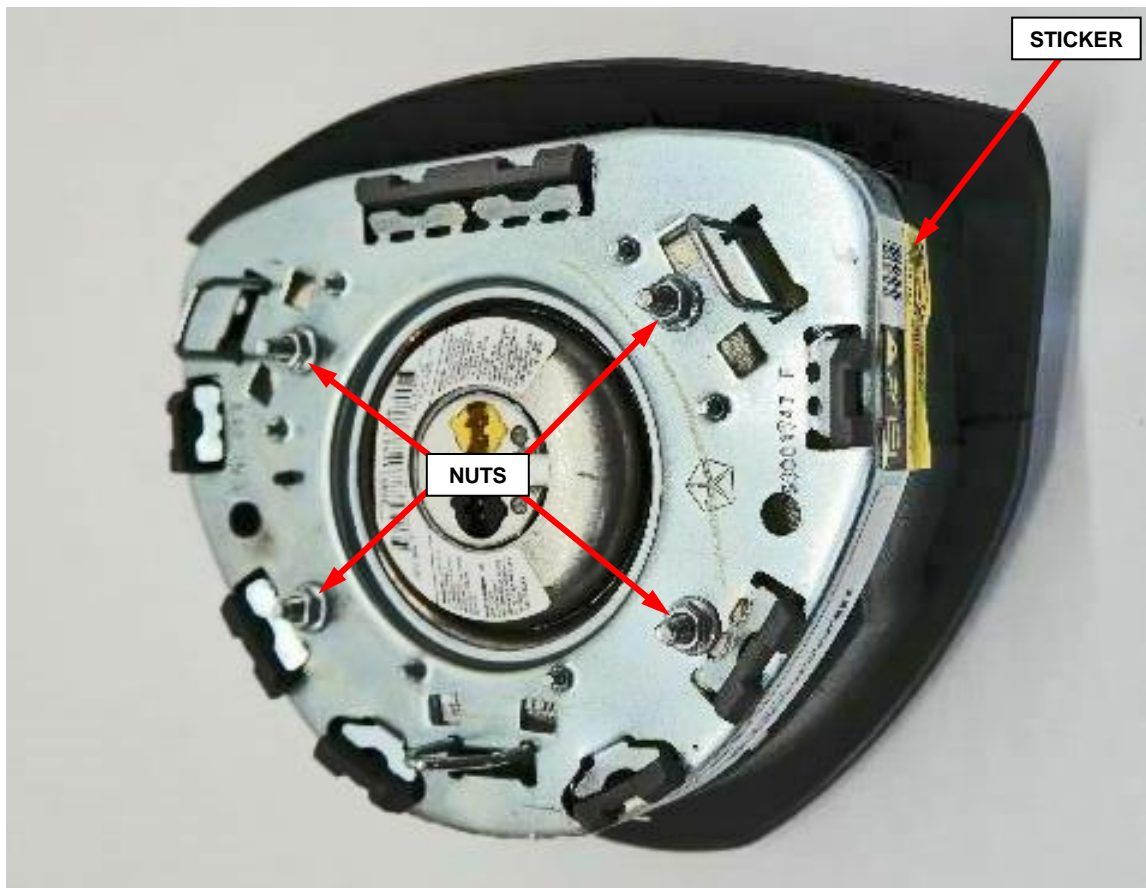

Figure 18 – Backing Plate Nuts and “Do Not Tamper” Sticker
5. Reapply the “Do Not Tamper” sticker that overlaps both the plastic cover and the backing plate (Figure 18).
6. Install the four nuts securing the backing plate and tighten in a star pattern sequence to 5 N·m (44 in. lbs.) (Figure 18).